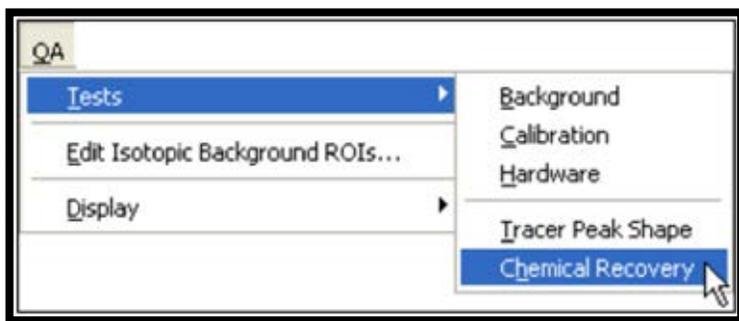

Figure 199. QA-Tests-Chemical Recovery
- 3) Next, perform the QA test for Chemical Recovery. This will scan the AlphaVision database for all data records in which the *ABC Pu242 CR* QA Type has been used, locate those records that have not yet been QA tested (1 so far), and test them. From the menu bar, select the **QA/Tests/Chemical Recovery** (Figure 199).